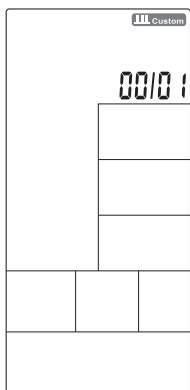

FIGURE 32
- Press INTERVAL (KEY 16) to select ADJUSTABLE INTERVAL to start setup. INTERVAL 00 / XX flashes to be set along with 1s audible alerts. Press UP / DOWN (10 or 11 KEYS) to set 00 / XX between 1 ~ 99. Press ENTER (KEY 19) to confirm and go to the next setting. (Figure 32).